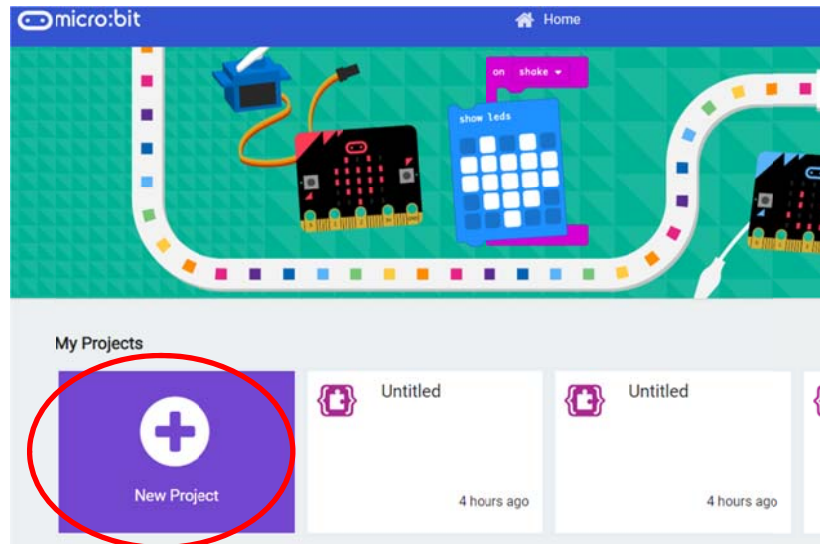

Fig. 6. <http://makecode.microbit.org>
2. Go to <http://makecode.microbit.org>, then you will see a page as shown in Fig. 6.